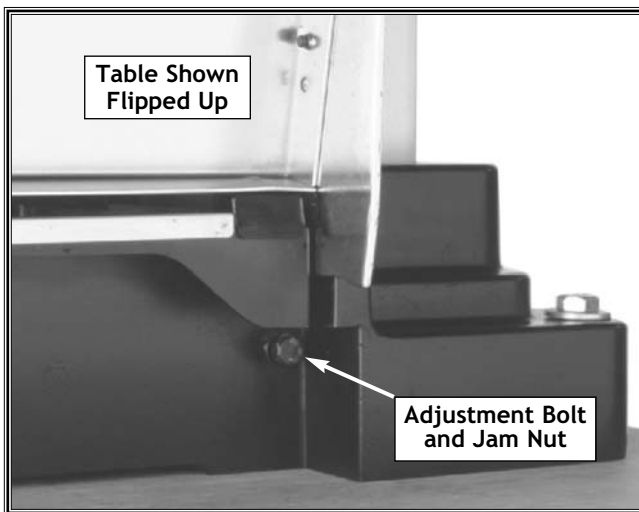

Figure 25. One of four extension table adjustment bolts.
4. With the straightedge still in place, use the adjustment bolts shown in **Figure 25** to raise/lower the extension table.